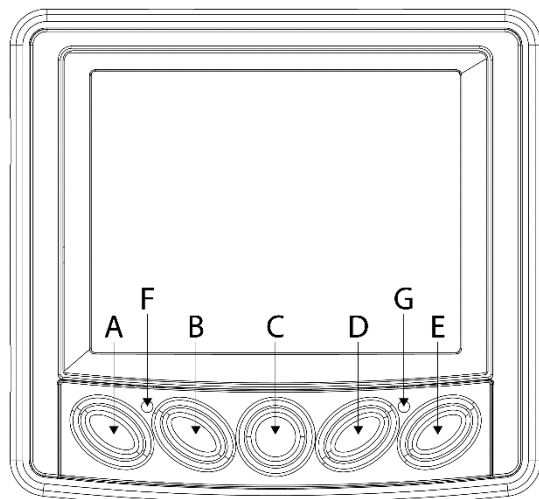

Figure 3-6
3.5.5.1. Starting at the default six-up engine display, press the "Menu" (C) key. (Figure 3-6)